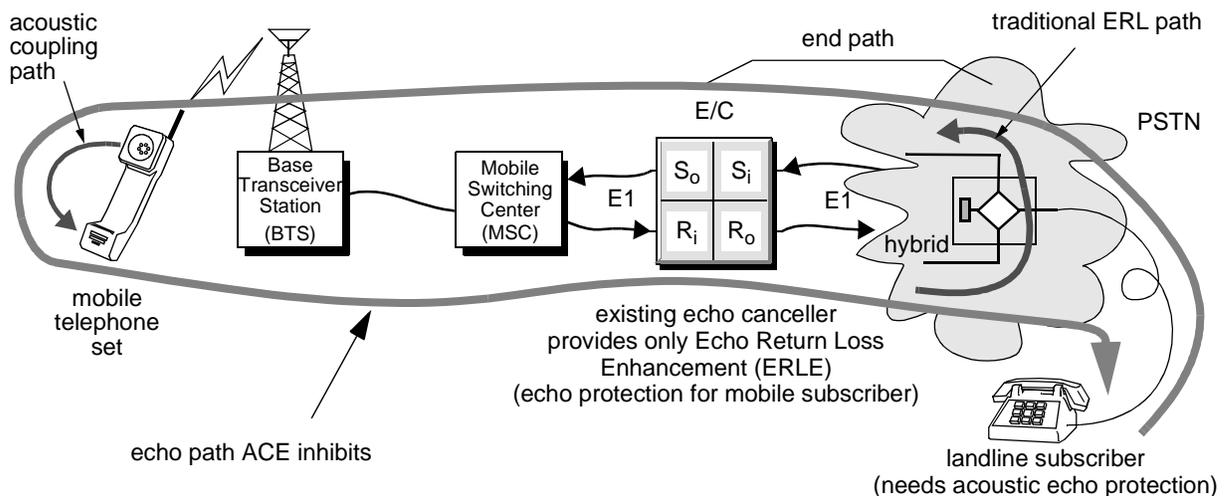

Figure 2-1 Traditional echo canceller placement in cellular network (protects only landline)
- 2.2 CLEARCALL ACE works with a variety of cellular technologies — e.g., Global System for Mobile Communications (GSM) and Time Division Multiple Access (TDMA). Figure 2-1 provides an illustration of echo canceller placement in a cellular network.